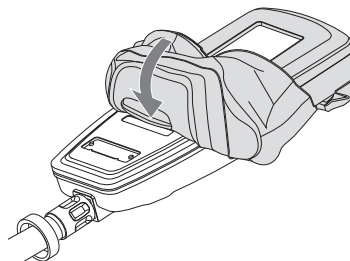

Fig. 51 Fitting the rubber cover
8. Partly fit the rubber cover to the UI module (Fig. 51).